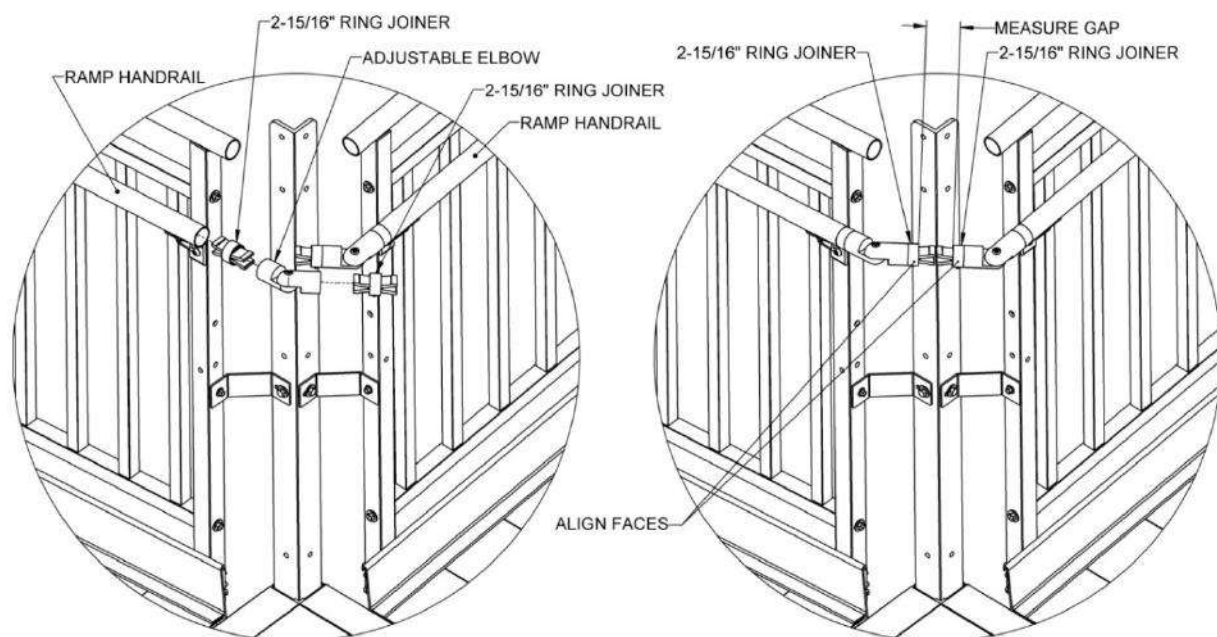

FIG. 5.47
- 5.10.4. Insert a 2-15/16" ring joiner in one of the ramp handrails at the corner turn, followed by an adjustable elbow and another 2-15/16" ring joiner. Orient the ring joiner set screws toward the underside of handrail. Tighten ring joiner set screws and adjustable elbow assembly screw enough to hold components in place but still allow them to rotate. Install 2-15/16" ring joiners and adjustable elbow in the other ramp handrail in the same manner (FIG. 5.47).
- 5.10.5. Align the faces of the two closest 2-15/16" ring joiners in the corner and measure gap between the two parallel faces. Trim the 1-1/2" diameter tube to measured length (FIG. 5.47).